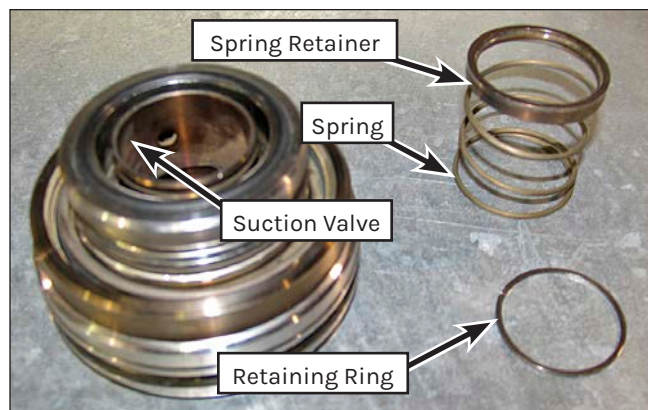

Figure 113: Retaining Ring and Spring Removal.
4. Remove the valve spring retainer and valve spring (Figure 113).